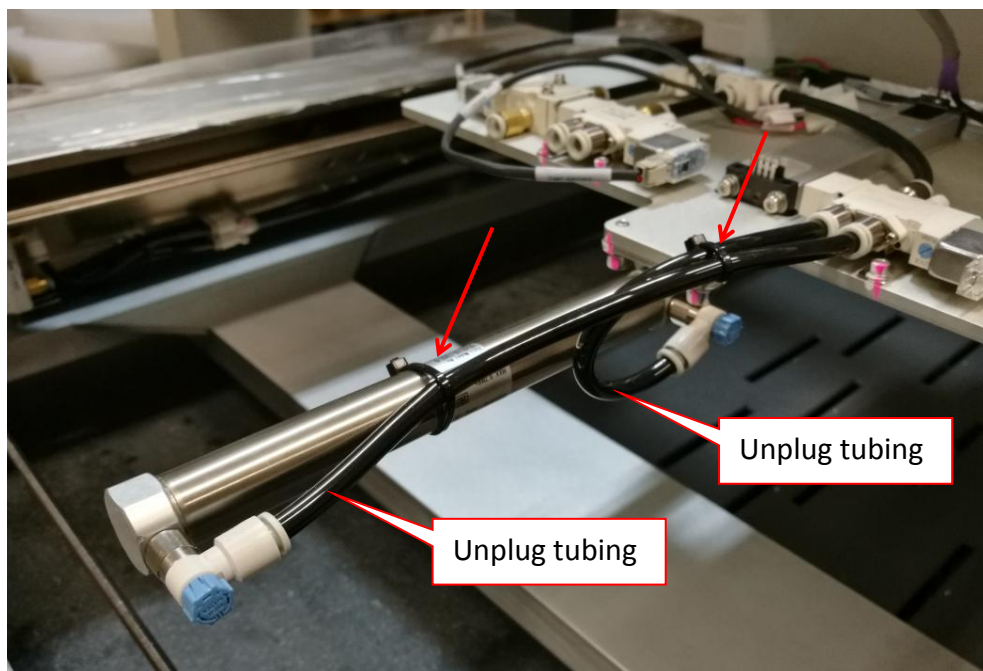

Figure 1 Tubing & cable tie removal
3. Remove Cable Tie & 2 x Tubing as shown in Figure 1